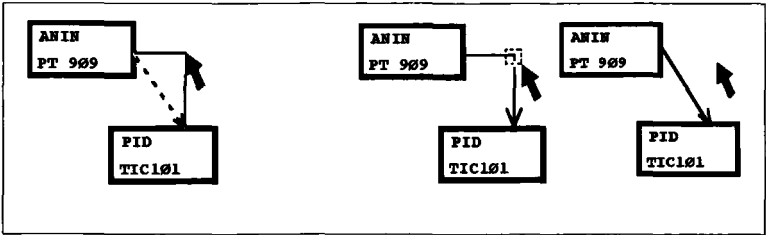

Figure 3.5 Editing Wiring
**Editing Wiring.** You can use two of the EDIT softkey functions to modify wiring. MOVE *adds* extra corners to the wire, and *moves* existing corners and wire-ends. DEL *deletes* wires and corners. Figure 3.5 shows how some of these operations appear on T1000's screen; full details are given in Chapter 9.